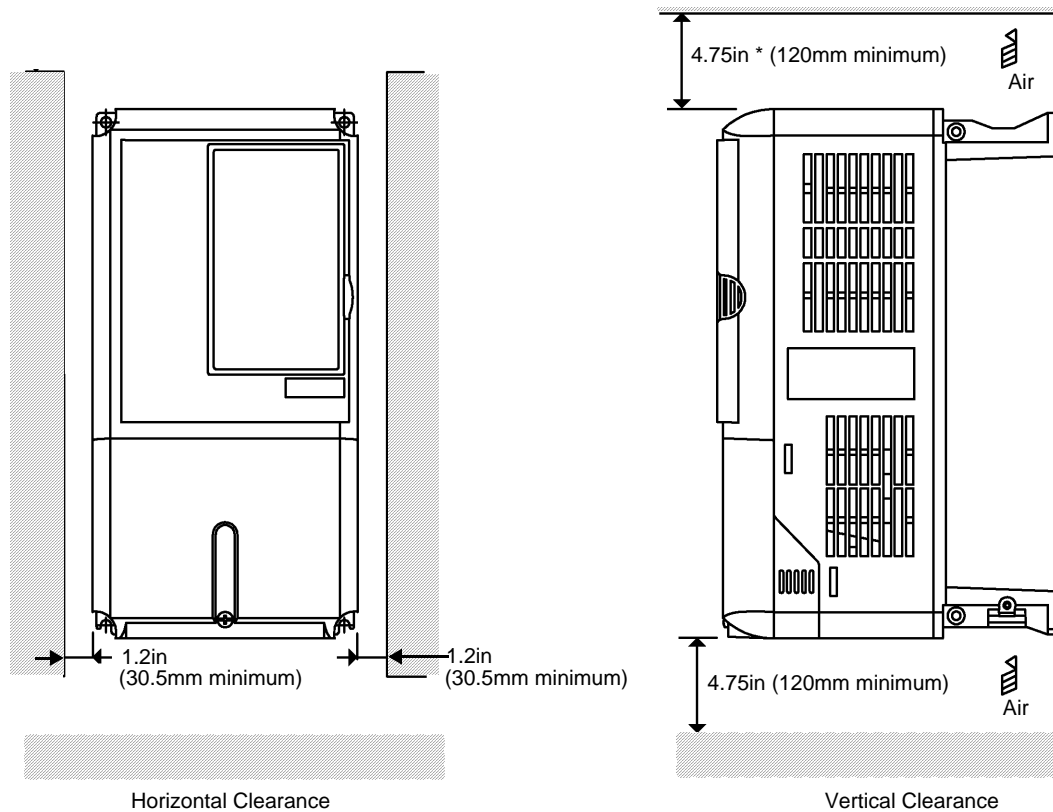

Figure 2-3
6. Ensure that the air can flow freely around the heat sink as shown below in Figure 2-3.